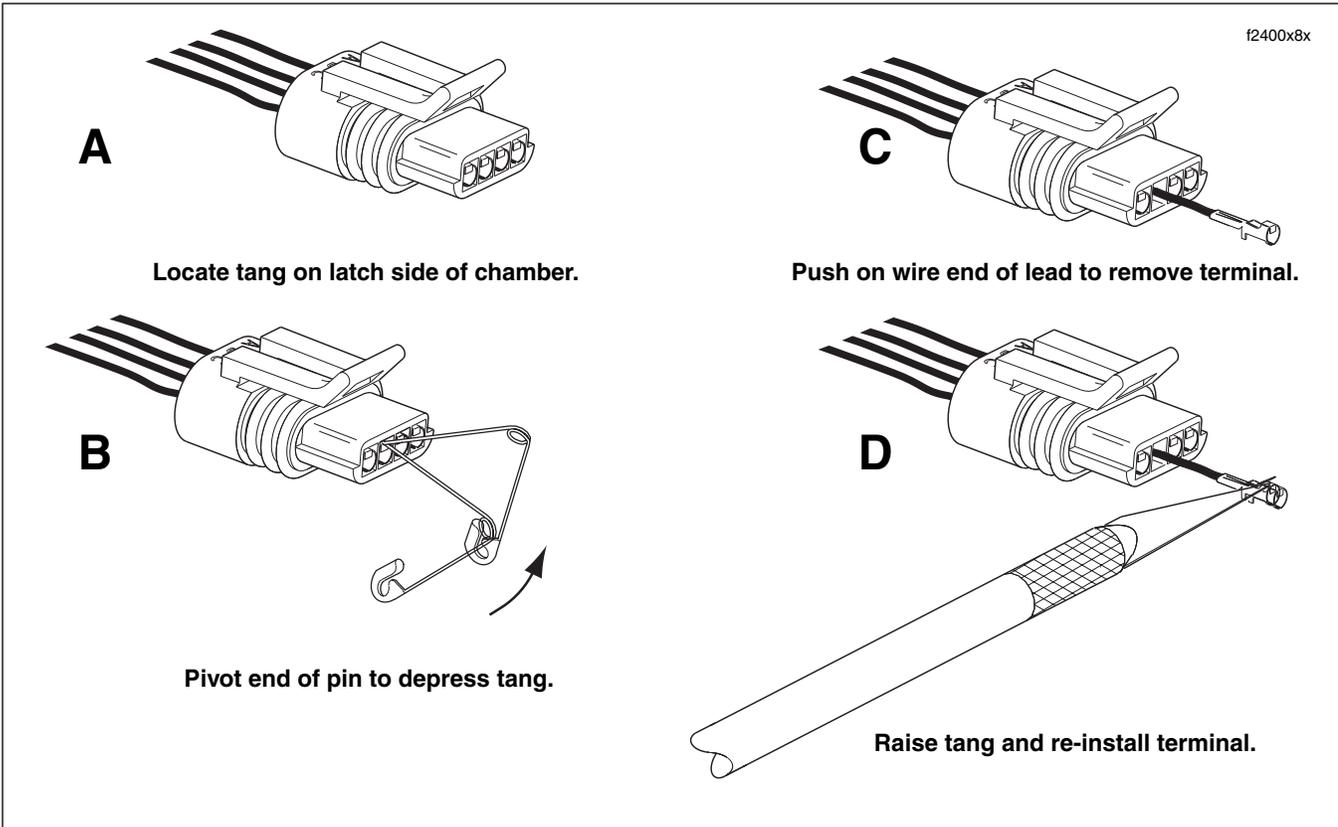
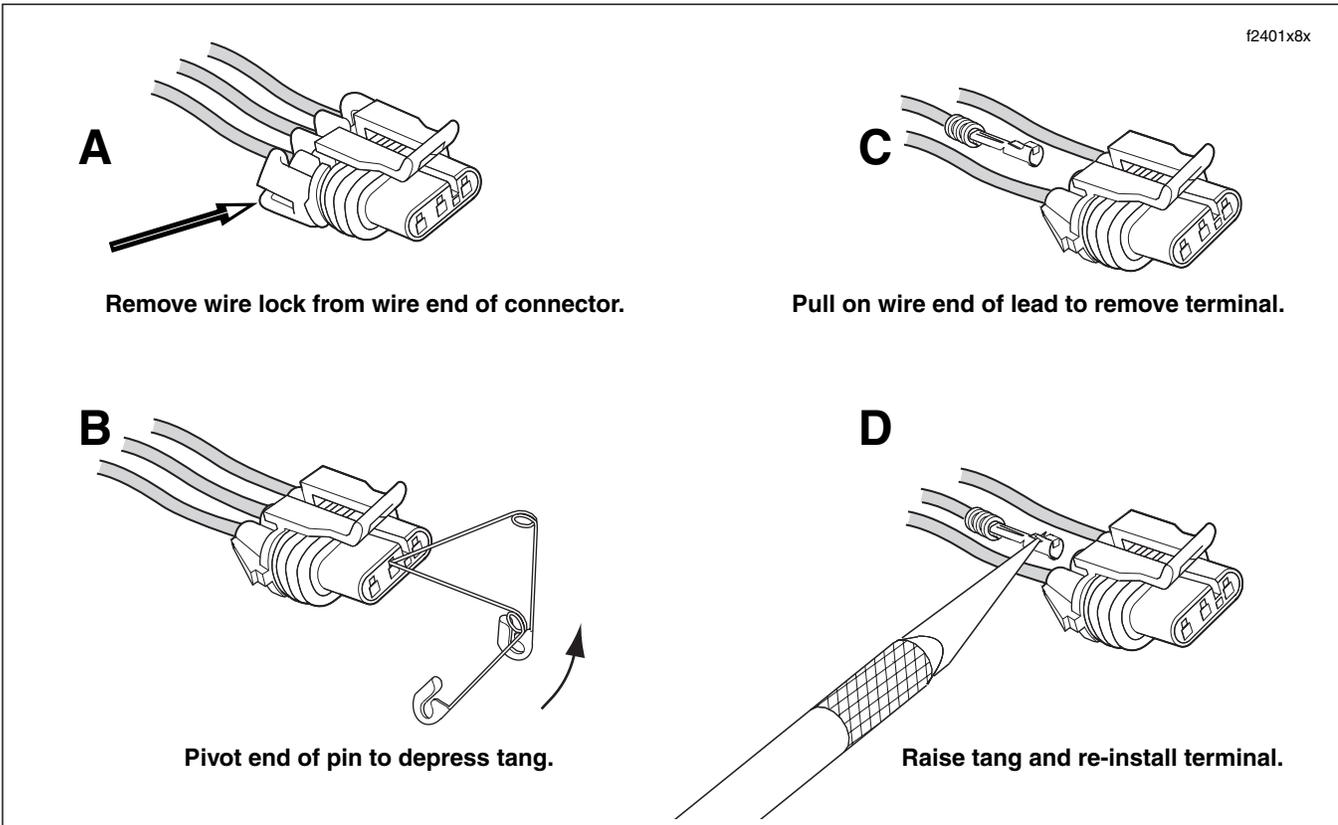

Figure 8-19. Depress Tang and Extract Terminal From Mating End of Pull-to-Seat Connector
Figure 8-20. Depress Tang and Extract Terminal From Wire End of Push-to-Seat Connector
2. Note that there are two types of connectors in this series, pull-to-seat terminal and push-to-seat terminal connectors. Remove wire lock from wire end of socket housing on push-to-seat type connectors. For best results, free one side of wire lock first and then release the other side. See A of Figure 8-20.
4. Gently insert the point of a one inch safety pin into the chamber about 1/8 inch (3.2 mm) staying between the terminal and the chamber wall, and then pivot the end of the pin toward the terminal body. See B in Figure 8-19 or Figure 8-20. On push-to-seat type connectors, take note that there is a small opening for insertion of the pin.
6. Remove the pin. On pull-to-seat connectors, push on the lead to extract the terminal from the mating end of the connector. See C in Figure 8-19. On push-to-seat connectors, pull on the lead to draw the terminal out the wire end. See C in Figure 8-20.
1. Using a thin flat blade, like that on an X-Acto knife, carefully bend the tang outward away from the terminal body. See D in Figure 8-19 or Figure 8-20.
4. On push-to-seat type connectors, seat wires in separate channels of wire lock and then push channels inside chambers at wire end of socket housing. Fully installed, slot on each side of wire lock engages ear on socket housing. See A of Figure 8-20.